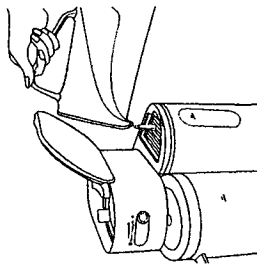

Figure 1
2. Rotate the brew head and pour water into the water reservoir (Figure 1).